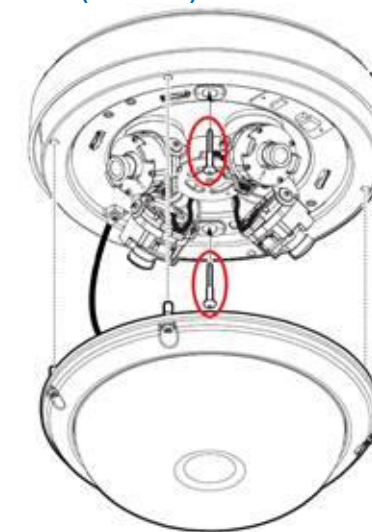

Figure 9
- To securely attach the camera base to the mount you must insert the two mounting screws provided with the mount into the two holes on the camera base (Figure 9).